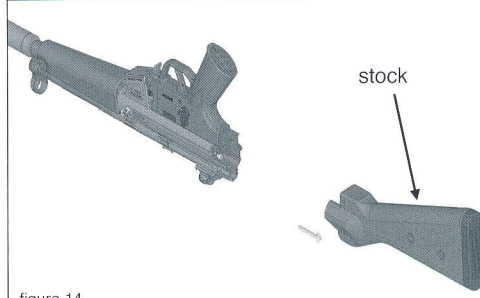
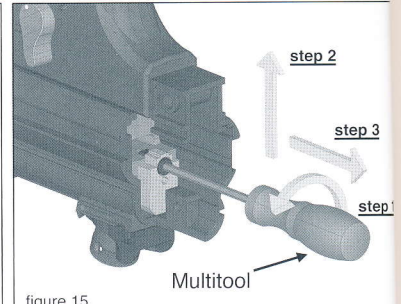

figure 14
figure 15
5. Remove the stock (figure 14) and unscrew the bolt stop with the multitool. (figure 15)
6. Put the bolt stop part into the receiver with the multitool and move the bolt stop part into its slot exactly in front of the breech carrier assembly (see figure 15 and 16 on page 24).